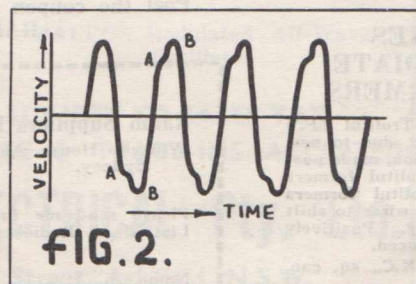
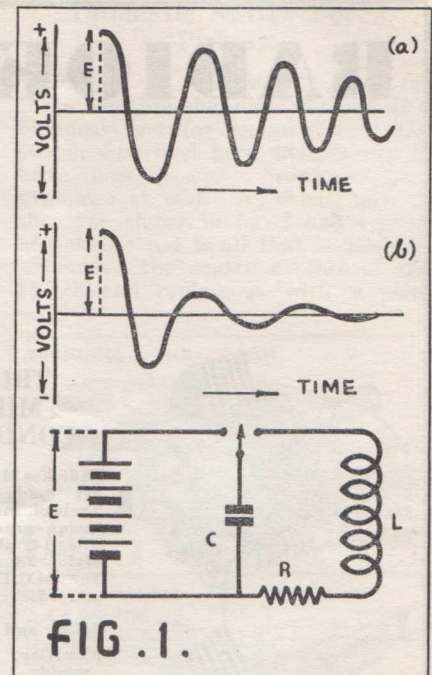

FIG. 2.
FIG. 1.
Here is an interesting idea for those who use the audio channel of a broadcast set for an amplifier. The switch described here enables one to have pick-up or broadcast programmes at will. A 'phone jack of the type shown in fig. 2 and a piece of bakelite rod is all that is needed.
of springy brass about 3/4" longer than the other two (see fig. 2). Also replace the bolts with new ones about 1 1/2" to 2" long—these are to fix the switch to the turntable base.
Next, get a piece of bakelite rod 1/2" wide and 2" long and file it to the shape shown in fig. 2. Drill and tap the large end to take a small bolt. Now bolt the bracket to take the tone arm to the rod. Also drill a 3/8" hole in the turntable base where the pick-up rests when not in use. The switch is now mounted to engage the bakelite rod, as shown in fig. 1.
Figure 1 will be familiar to most readers. It is a graph of the voltage swinging and dying in its swings in a tuned circuit. Each successive swing, just like the swing of our pendulum, has lost a certain fraction of its voltage. The two figures (A) and (B) show the effect of "Q" on the "death" of the oscillation.
Go back to the pendulum—it is easier to watch its action than that of electrons in a tuned circuit. So far, all we have done is to pull the weight to one side, release it, and watch it lose the energy given it. Put it in a clock where it receives one kick on each forward stroke, then look at figure 2.